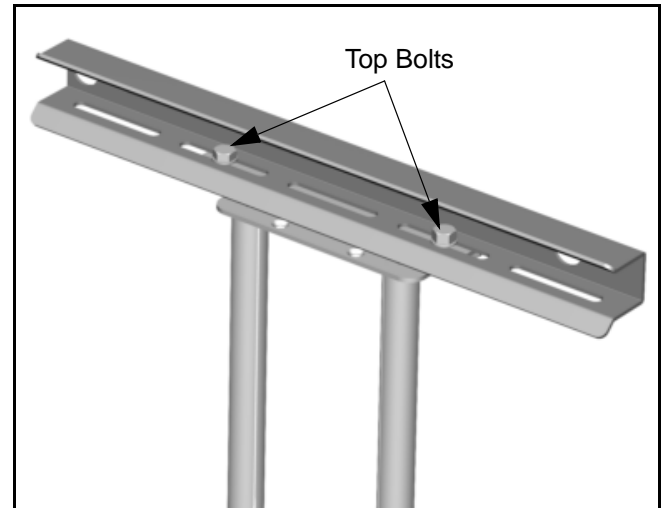

Figure 12: Adjust Swing Arm-Slightly Off Center
2. Loosen four bolts (two on the top and two on the bottom) securing the swing arm assembly to the top and bottom mounting brackets (See figure 12).